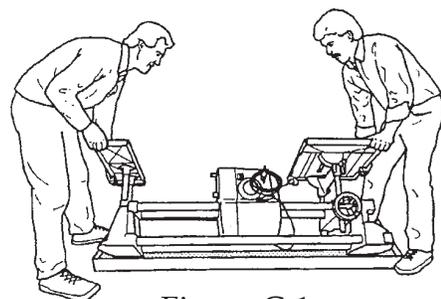

Figure C-1
7. With a helper on one end of the Mark 7 and you on the other, turn over the Mark 7 onto the cardboard. See Figure C-1. The extension table and the worktable will support the machine. Take care not to scratch the table tops.